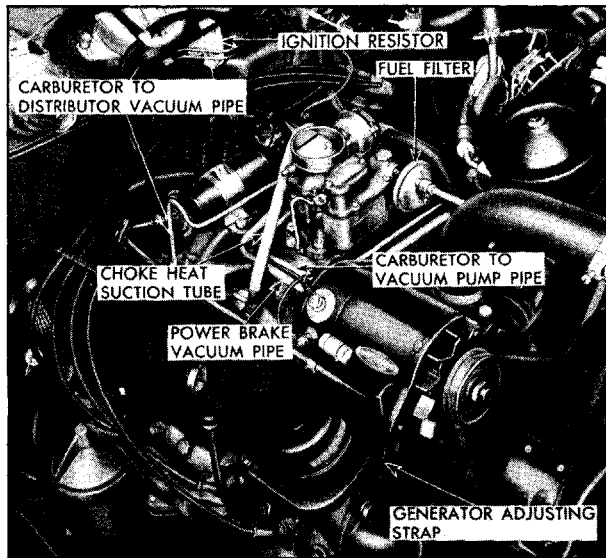

Fig. 6-15 Engine Parts Nomenclature
12. Remove distributor to carburetor vacuum pipe (Fig. 6-15).